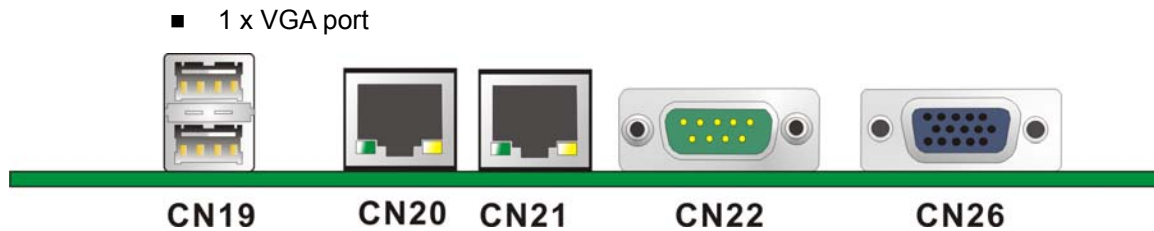

Figure 3-25: WAFER-LX On-board External Interface Connectors
Figure 3-25 shows the WAFER-LX motherboard external interface connectors. The WAFER-LX on-board external interface connectors are listed below and shown in **Figure 3-25**:
CN Location:	See Figure 3-25
**CN Location:** See **Figure 3-25**